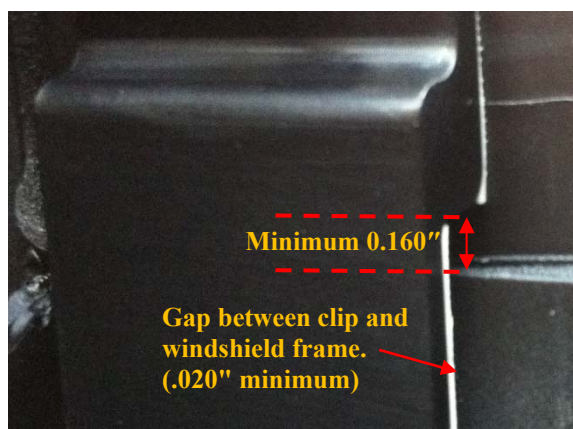

Figure 5-4: Clip Alignment with Windshield Frame
5. Align the clip on the windshield so the screw hole is centered on the cross-hatch mark from step 4 above. Ensure the clip is square with the edge of the outboard side frame and verify a minimum gap of 0.160" (refer to **Figure 5-4**).
11. Ensure the clip is square with the edge of the outboard side frame and verify a minimum gap of 0.160" (refer to **Figure 5-4**).